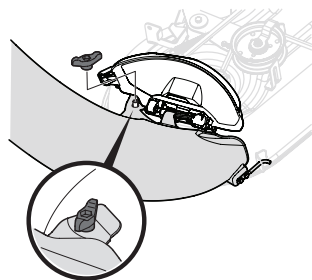

Figure 21
4. Secure the boot to the deck by using a wing knob (720-04122) from hardware pack 689-02364. See Figure 21.